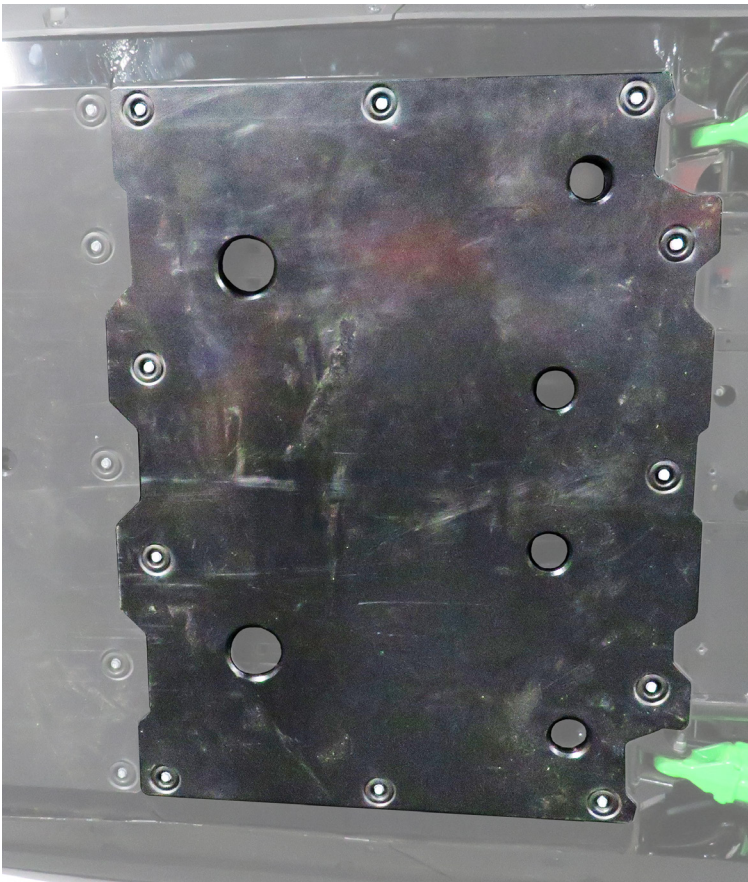

Fig.9a
9.Next, **Install Plate #4** as shown in **Fig.9a-b**. You will only be installing the **M6x30 Hex Bolts** in this panel. Keep them a little loose for now. See **Fig.9a-b**.